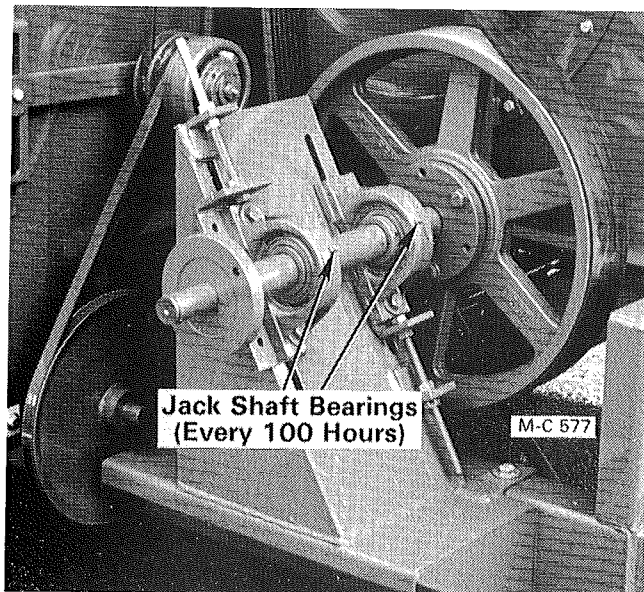

Figure 34
5. **Model 675B and 975B PTO Drive** - Lubricate the PTO jack shaft bearings, see Figure 34. Also lubricate the PTO shaft universal joints.